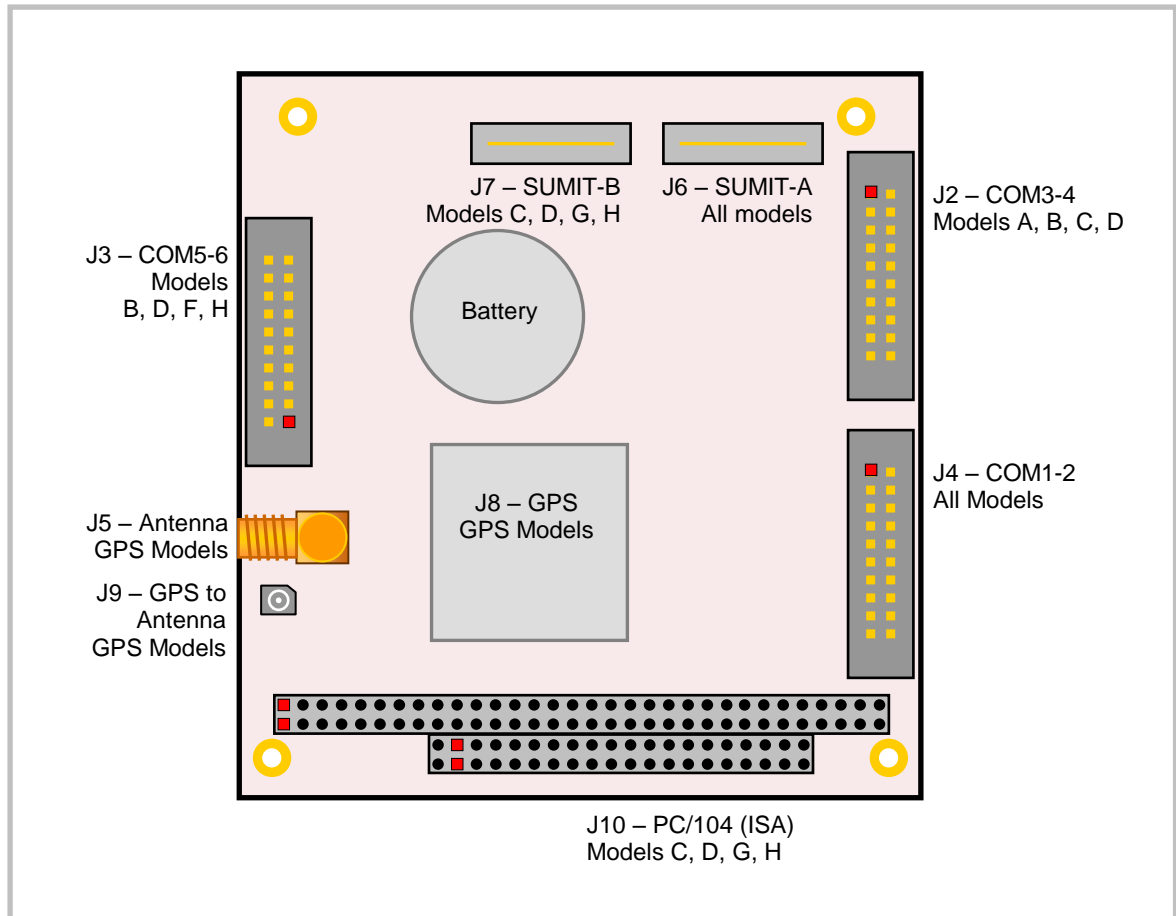

Figure 5. VL-EPMs-U1 Connectors – Top Side
1. The PCB origin is the center of the mounting hole located in the lower left, as oriented in Figure 5.